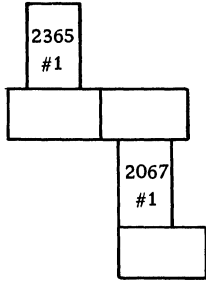

Figure 16
2. The configurations of the System/360 Model 67-2 are shown on page 51. The 2365 Storage Units and 2067 Processor Units are to be numbered as shown in Figures 16 through 23. The 2365 Storage Units in Figure 23 would always be numbered 5 through 8 from left to right, regardless of whether the con-